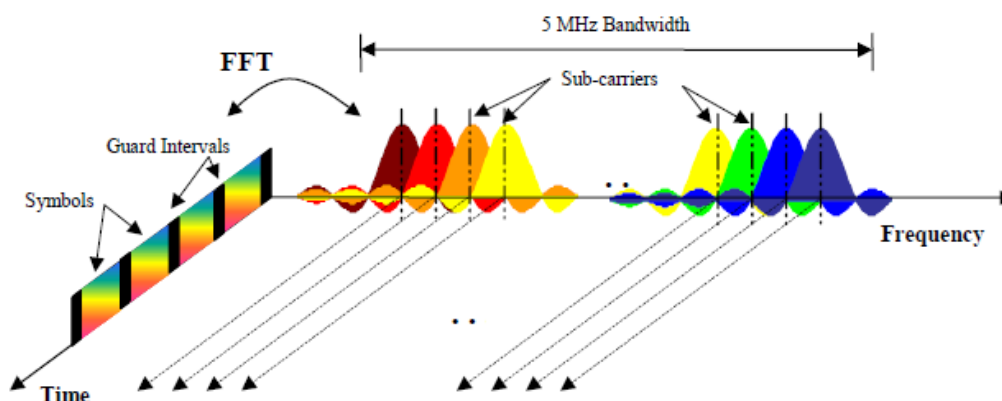

Fig. 3-1: Frequency-Time Representation of an OFDM Signal
figure 3-1 shows a representation of an OFDM signal taken from 3GPP TR 25.892 [2]. In this figure, a signal with 5 MHz bandwidth is shown, but the principle is of course the same for the other EUTRA bandwidths. Data symbols are independently modulated and transmitted over a high number of closely spaced orthogonal subcarriers. In EUTRA, downlink modulation schemes QPSK, 16QAM, and 64QAM are available.
The vector s_m is defined as the useful OFDM symbol. It is the time superposition of the N narrowband modulated subcarriers. Therefore, from a parallel stream of N sources of data, each one independently modulated, a waveform composed of N orthogonal subcarriers is obtained, with each subcarrier having the shape of a frequency sinc function (see figure 3-1).
One downlink slot consists of N_{symb}^{DL} OFDM symbols. To each symbol, a cyclic prefix (CP) is appended as guard time, compare figure 3-1. N_{symb}^{DL} depends on the cyclic prefix length. The generic frame structure with normal cyclic prefix length contains $N_{symb}^{DL} = 7$ symbols. This translates into a cyclic prefix length of $T_{CP} \approx 5.2 \mu s$ for the first symbol and $T_{CP} \approx 4.7 \mu s$ for the remaining 6 symbols. Additionally, an extended cyclic prefix is defined in order to cover large cell scenarios with higher delay spread and MBMS transmission. The generic frame structure with extended cyclic prefix of $T_{CP-E} \approx 16.7 \mu s$ contains $N_{symb}^{DL} = 6$ OFDM symbols (subcarrier spacing 15 kHz). The generic frame structure with extended cyclic prefix